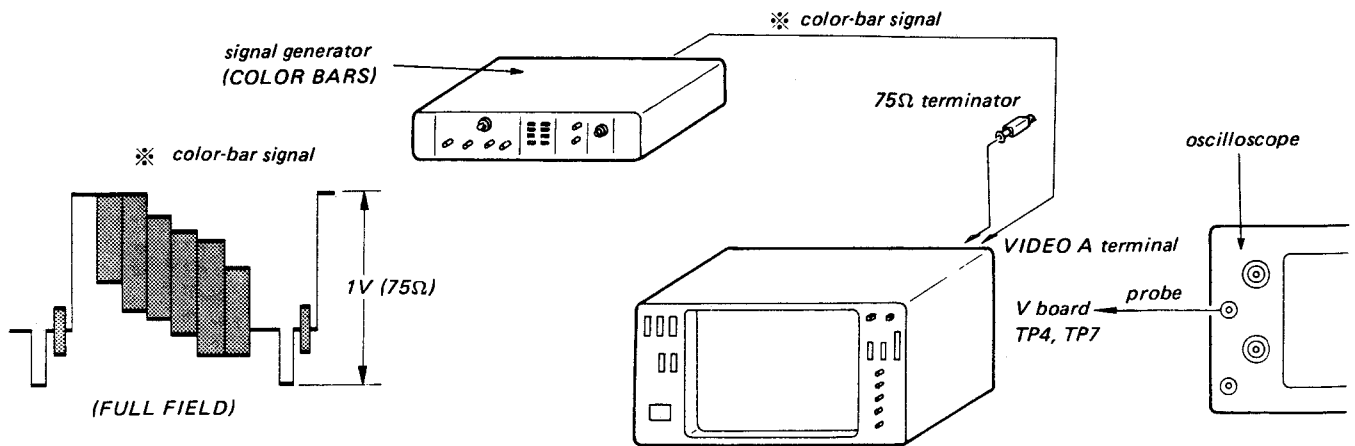

Fig. 5-142.
1. Complete the connections as shown in Fig. 5-142.